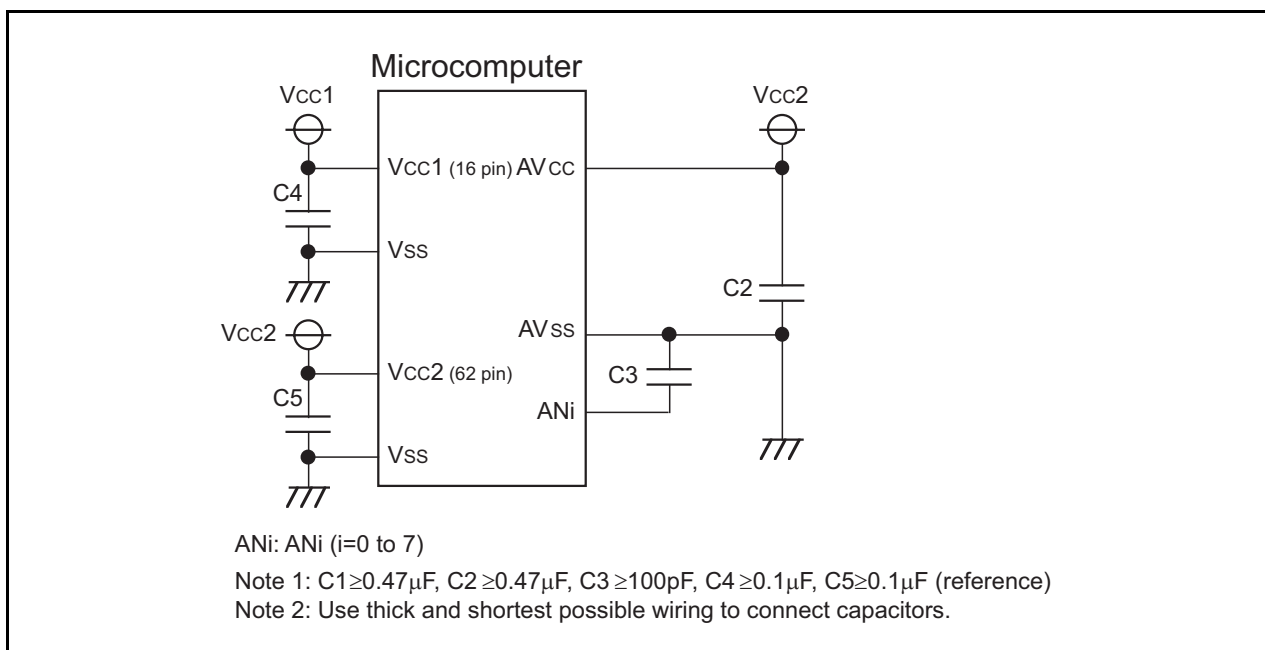

Figure 12.11 Vcc, Vss, AVcc, AVss, VREF and ANi Connection
- (1) Make sure the port direction bits for those pins that are used as analog inputs are set to “0” (input mode). Also, if the ADCON0 register’s TGR bit = 1 (external trigger), make sure the port direction bit for the ADTRG pin is set to “0” (input mode).
- (2) To prevent noise-induced device malfunction or latchup, as well as to reduce conversion errors, insert capacitors between the AVCC, VREF, and analog input pins (ANi (i=0 to 7)) each and the AVSS pin. Similarly, insert a capacitor between the VCC pin and the VSS pin. Figure 12.11 is an example connection of each pin.
- (3) If the CPU reads the ADi register (i = 0 to 7) at the same time the conversion result is stored in the ADi register after completion of A/D conversion, an incorrect value may be stored in the ADi register. This problem occurs when a divide-by-n clock derived from the main clock or a subclock is selected for CPU clock.